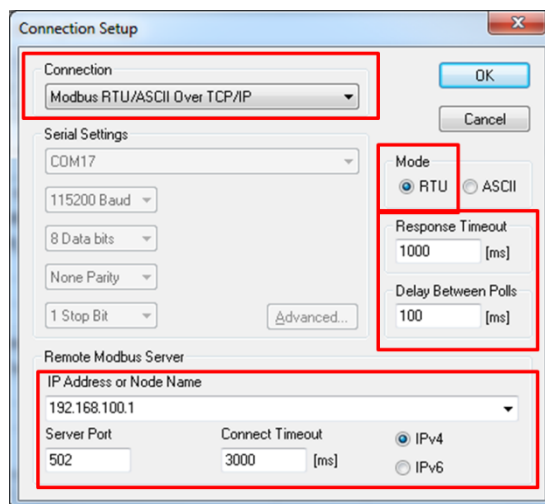

Figure 1-3 Modbus RTU Over TCP/IP connection
**Connction setting** - You can use 'Modpoll' utility to do Modbus communication beweeet PC and NuMaker UNO (or mbed board). At first, In 'Connection Setup' page, select 'Modbus RTU/ASCII Over TCP/IP' item in 'Connection' combo list. In 'Mode' radio group, select RTU. In 'Response Timeout', input 1000 into 'Response Timeout' textedit and input 100 into 'Delay Between Polls' textedit. Finally, the IP address is '192.168.100.1' and 'Server Port' is 502. You also refer below Figure 1-3 to fill settings.